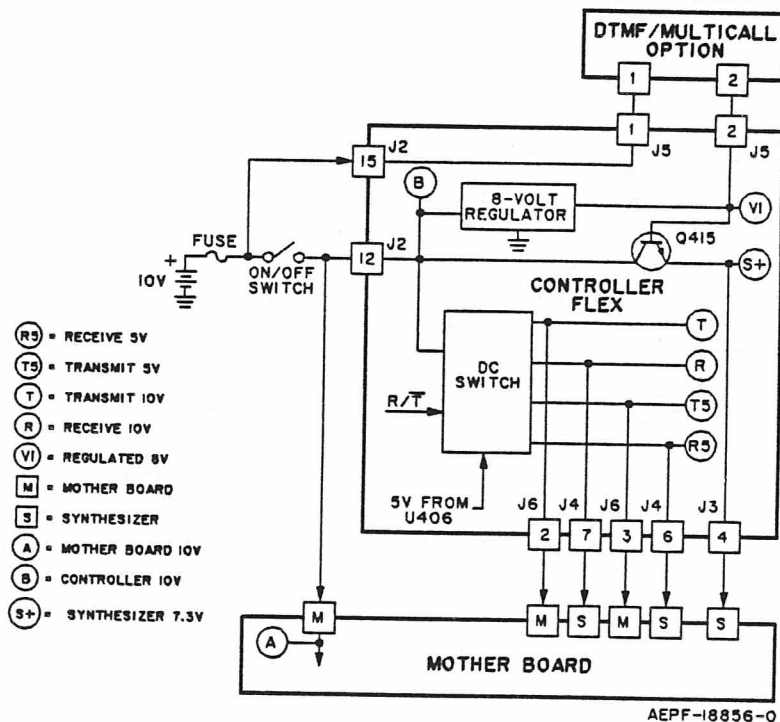

Figure 1. DC Voltage Distribution Block Diagram
a. DC Voltage Distribution (See Figure 1)